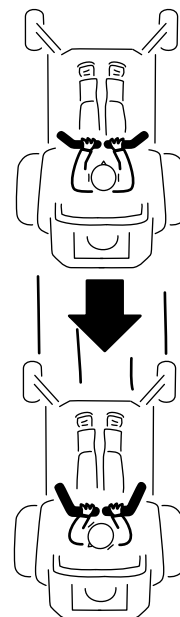

Figure 29
2. To go in reverse, slowly pull the motion-control levers rearward (Figure 29).